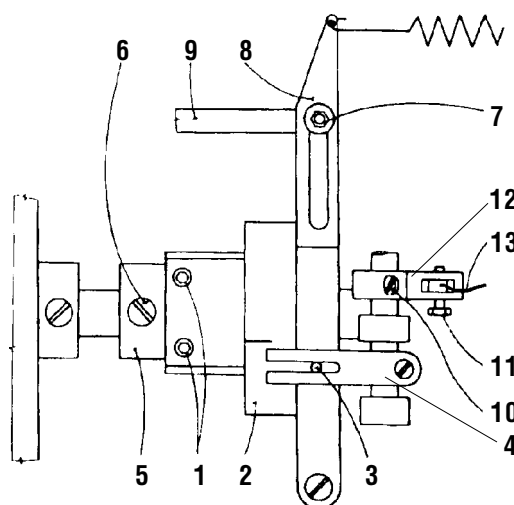

Fig. 22
21. Time setting of the control cam of the thread cutter (Fig. 22)
22. Setting of the movable cutting knife lifting (Fig. 22)
23. Setting of the upper thread tensioner releasing (Fig. 22)